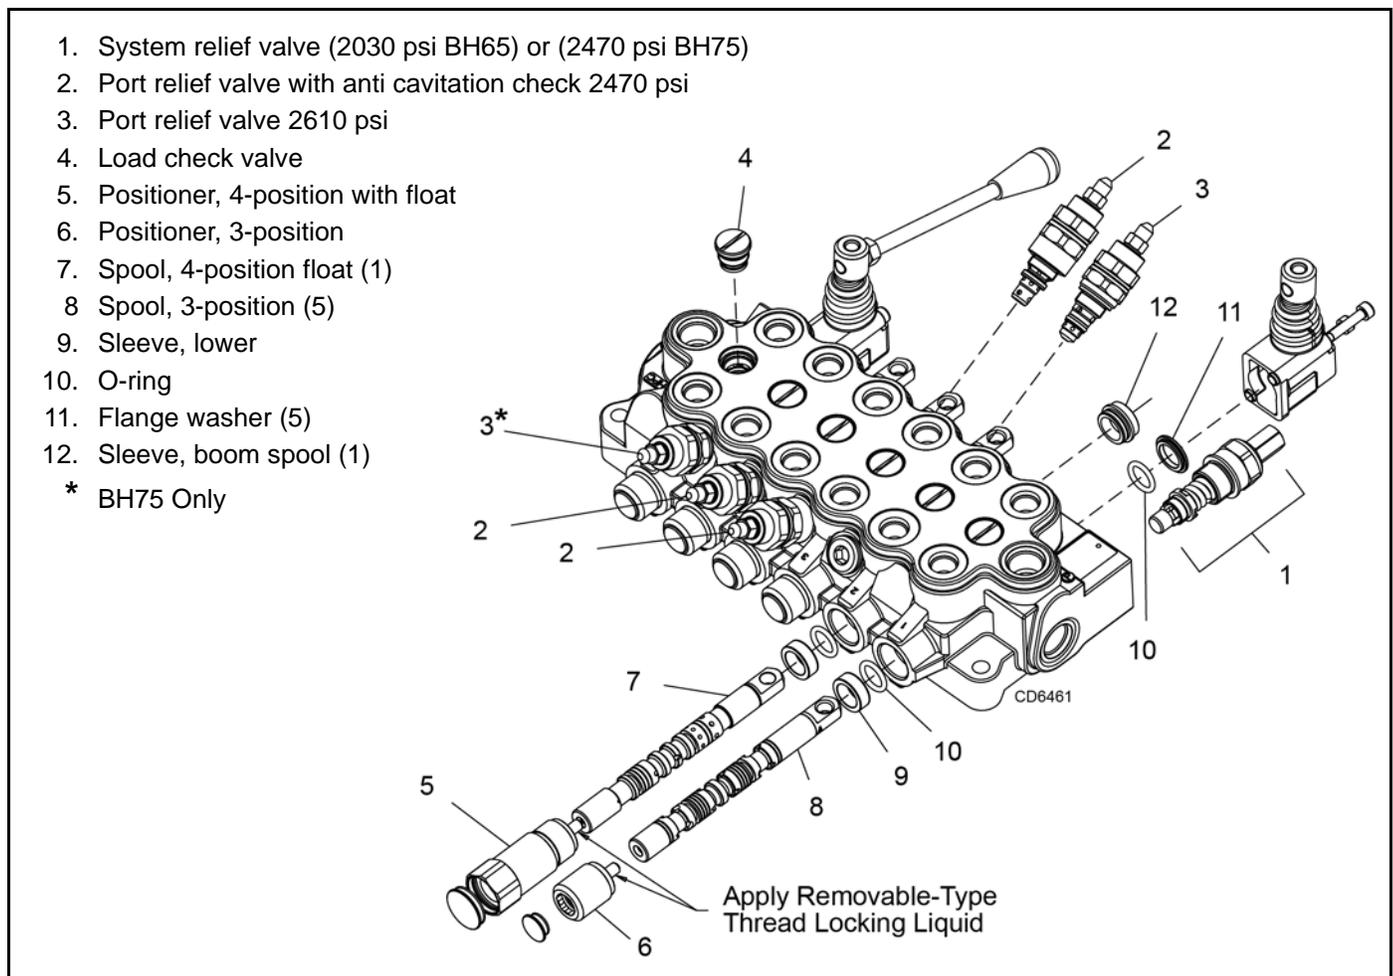

Figure 12. BH65/75 Control Valve Assembly
Refer to Figure 12.
To adjust relief valve setting, place a 3000 psi pressure gauge in the line attached to the valve inlet (IN) port. Remove cap from top of main relief (1, Figure 12). Turn adjusting screw clockwise to increase pressure and counter clockwise to decrease pressure. Start tractor and set throttle for full engine speed. Move right stabilizer control lever to raise stabilizer to transport position and hold the lever so full pressure builds. Adjust screw to attain 2030 psi for BH65 or 2470 psi for BH75. Shut off tractor and replace cap.
Position spool wipers (A) (Figure 12) on swing, dipper, and bucket spools in linkage plate. Reinstall control linkage. Note the screws installed in the boom and dipper spools should be tightened until snug, then backed off approximately ½ turn to allow free movement of the joystick.